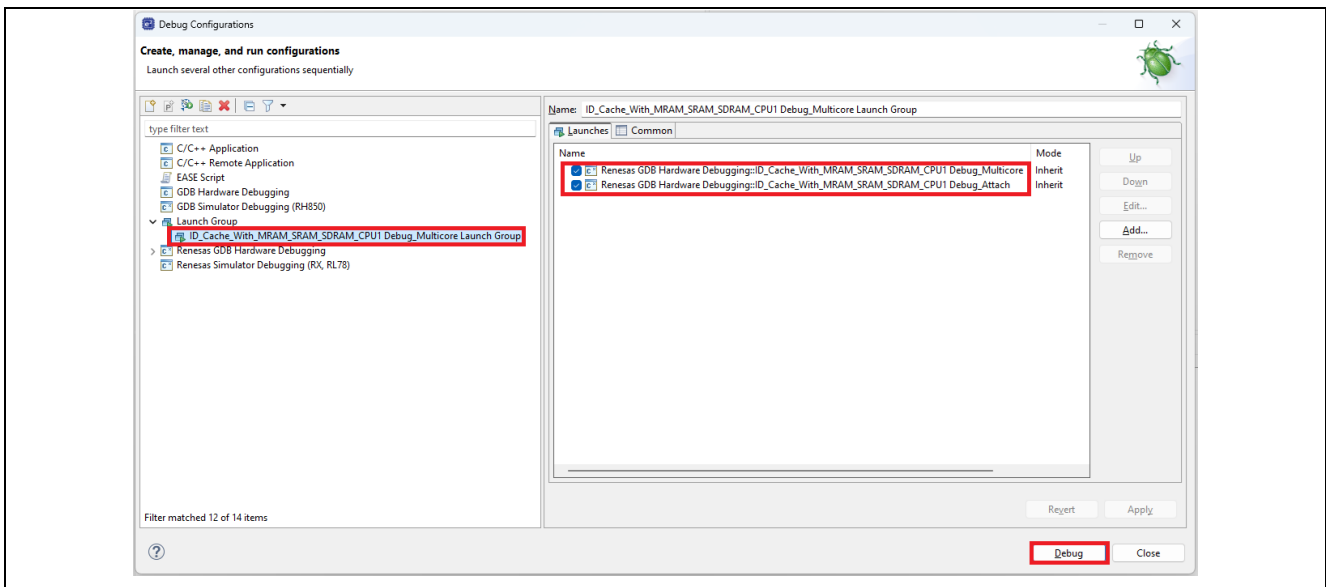

Figure 15. Initiating Debug in the solution project
4. Select “ID_Cache_With_MRAM_SRAM_SDRAM_CPU1 Debug_Multicore Launch Group” as shown in Figure 15.